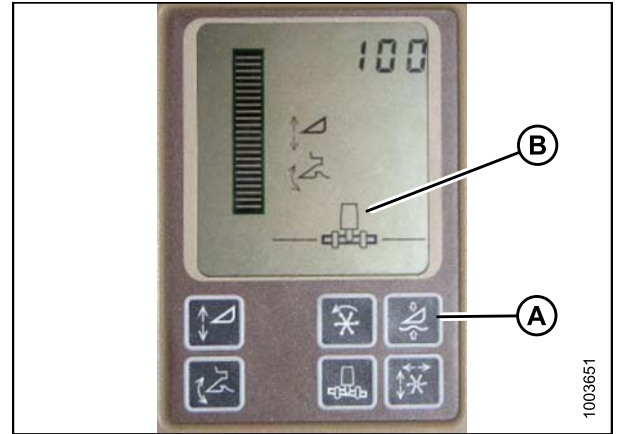

Figure 5.144: John Deere Combine Display
Do **NOT** use the active header float function (A) in combination with the MacDon auto header height control (AHHC)—the two systems will counteract one another. The header symbol (B) on the display should NOT have a wavy line under it and should appear exactly as shown on the Active Header Control Display in Figure 5.144: *John Deere Combine Display*, page 205.